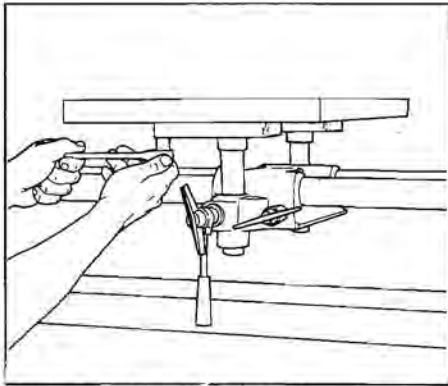

Figure 7. Tighten the four table support mounting bolts.
5. **Tighten the table supports.** With the carriage locked in place, use a 9/16" wrench to tighten the four table support mounting bolts (33). (See Figure 7.)